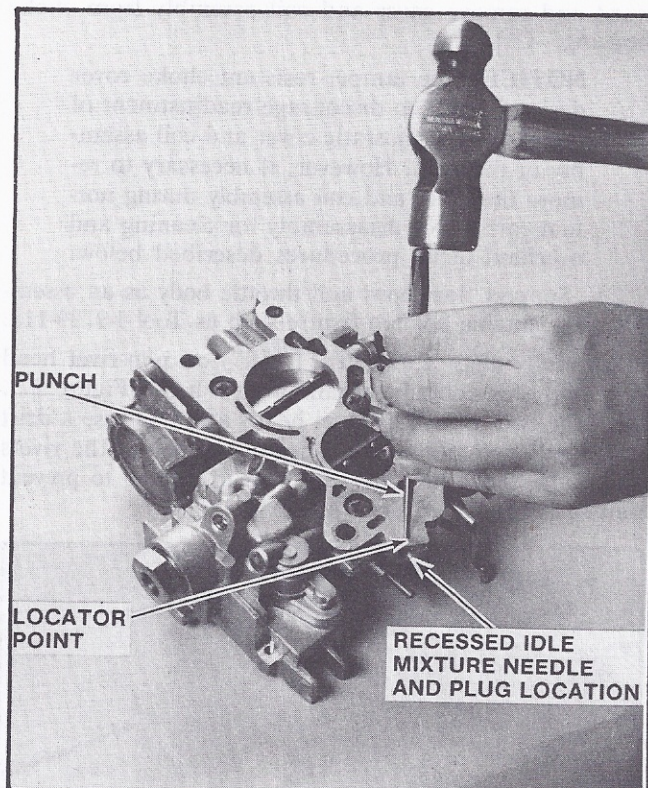

FIGURE 32 REMOVING IDLE MIXTURE SEAL PLUGS
b. Place a punch in the locator point in the throttle body beneath the idle mixture needle plug (manifold side). See Figure 32 for locating point. Then, holding the punch vertical, drive punch through the locator until hardened steel plug breaks. Then, holding punch at a 45° angle, breakout throttle body casting to gain access to the mixture needle plug.